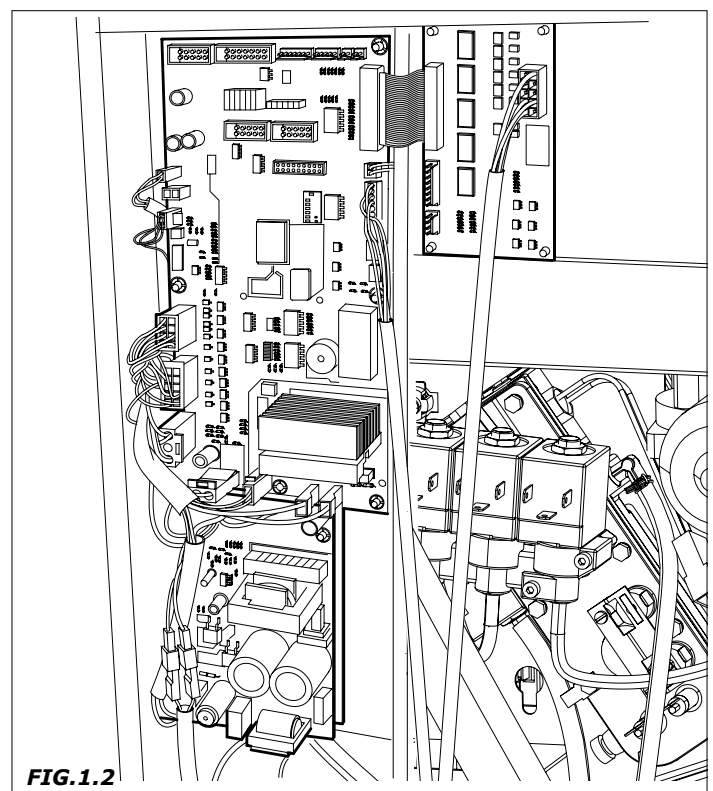

FIG. 1.2
- The version of the programme contained in the microprocessor (adhesive label applied to the component assembled on the Master board) (Fig.1.2).